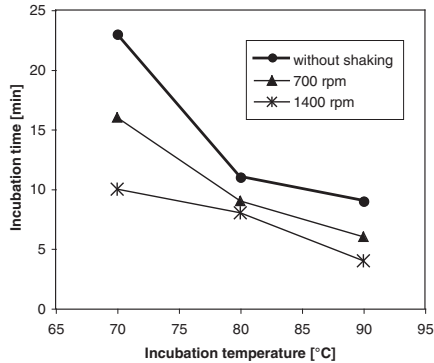

Figure 2: Removal of residual ethanol from the elution fraction by heat treatment.
- The incubation of the eluate at higher temperatures may be adjusted according to Figure 2. The incubation times and conditions shown will reduce an initial elution volume of 20 μ L to about 12–14 μ L and will effectively remove traces of ethanol as described above.